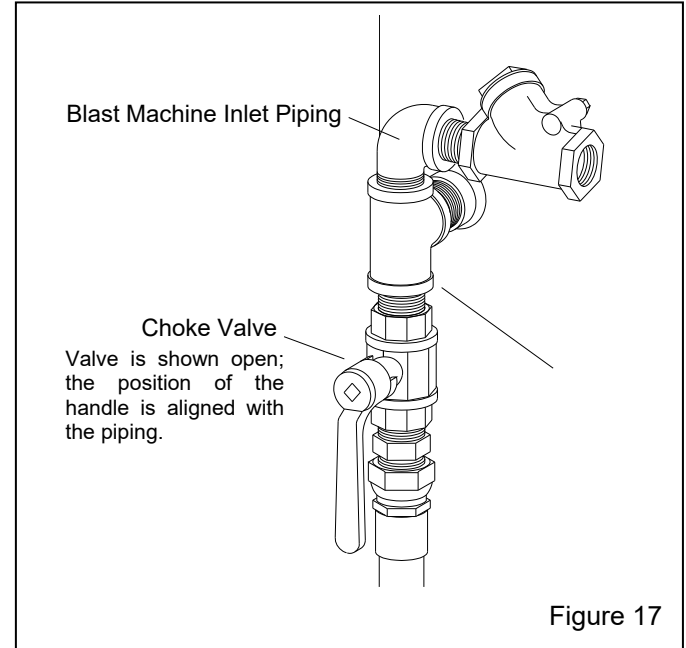

Figure 17
4.5 Operation and Function of the Choke Valve Figure 17
4.5.1 Always fully open the choke valve while blasting; open is when the handle is vertical and aligned with the piping, as shown in Figure 17.